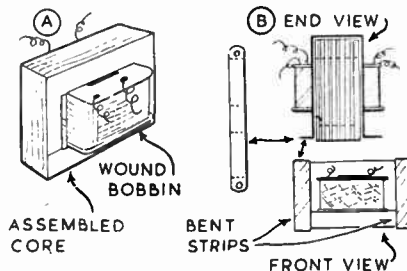

Fig. 2—An assembled transformer
When all the stampings are placed in, the transformer will appear as at (A) in Fig. 2. A convenient method of mounting is to cut two strips from tin or other metal and bend these so that when the feet are screwed or bolted down the transformer is held, as shown at (B). If an